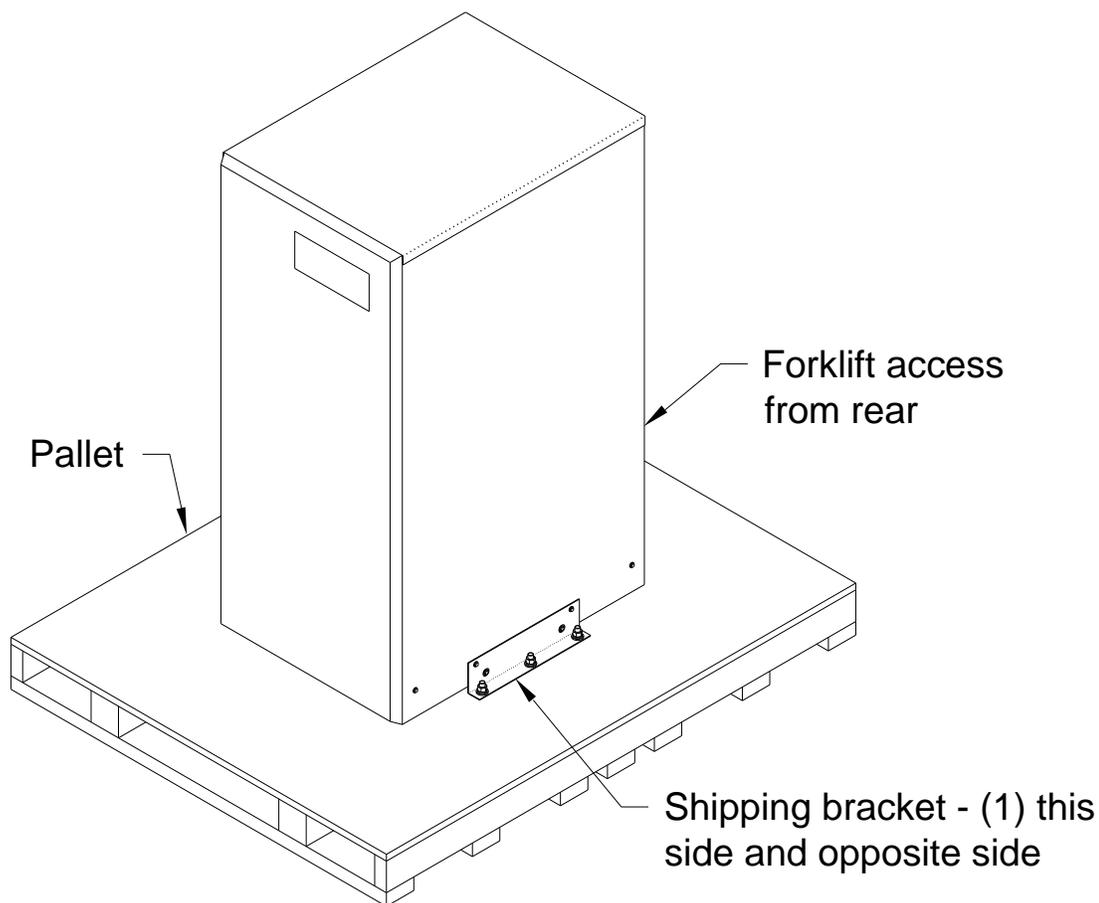

Figure 2 - UPS on pallet
2. Loosen the six 1/2" nuts and washers securing the shipping brackets to the pallet (see Figures 2 and 3).